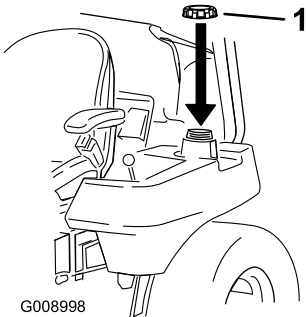

Figure 13
6. Remove both existing fuel caps and replace them with the new fuel caps (Figure 13).